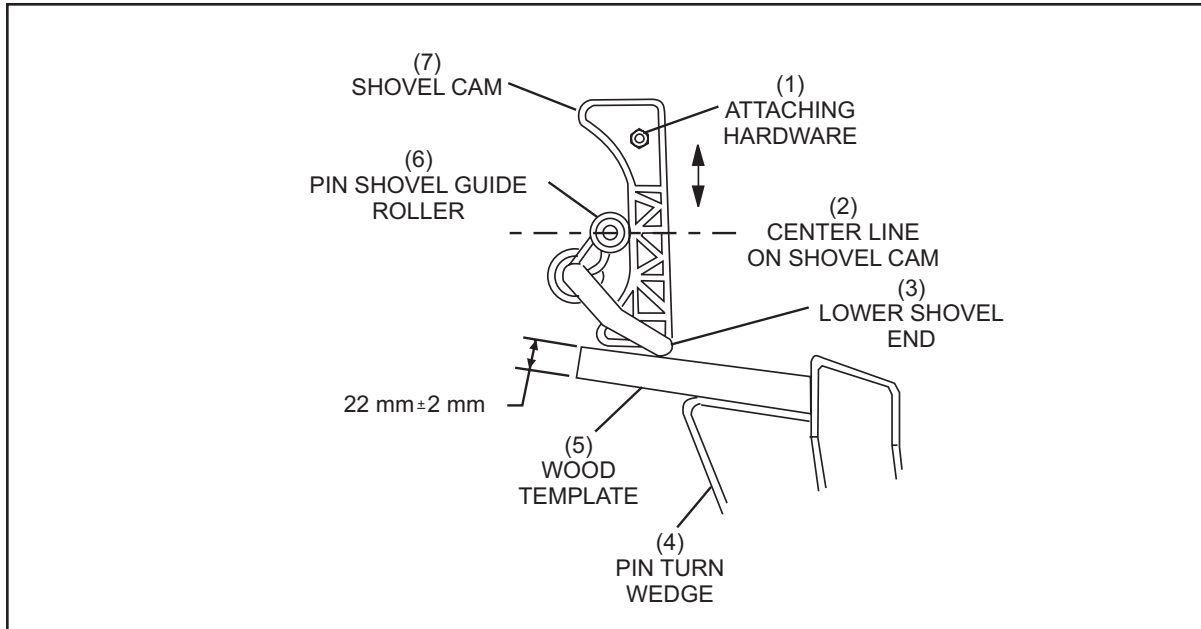

Figure 5-17. Elevator Pin Shovel Cam Adjustment
1. Manually position the elevator's pin shovels so the lower surface of the pin shovel is 22 mm + 2 mm above the top surface of the pin turn wedges. Refer to *Figure 5-17*.